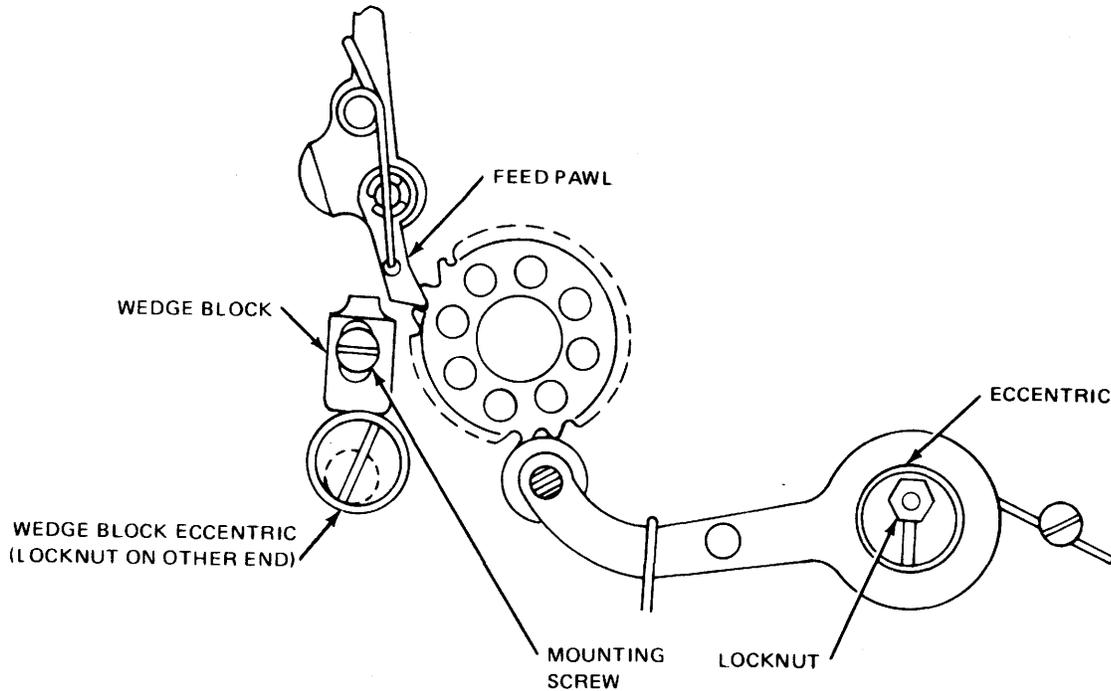

Figure 6-32. Wedge Block Adjustment.
7. Adjust wedge block (see figure 6-32).